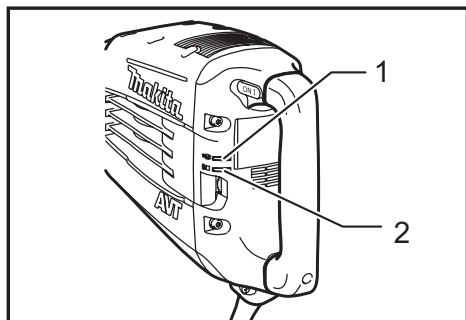

Fig.3
► **Fig.3:** 1. Power-ON indicator lamp (green)